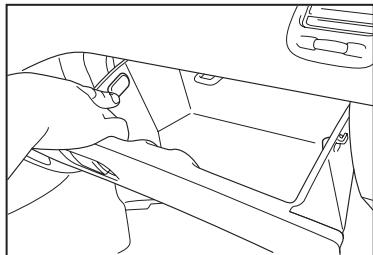

Fig. 1
2. Remove hinge tabs on both sides of the glove box to temporarily release the glove box from its compartment. (See Fig. 1)